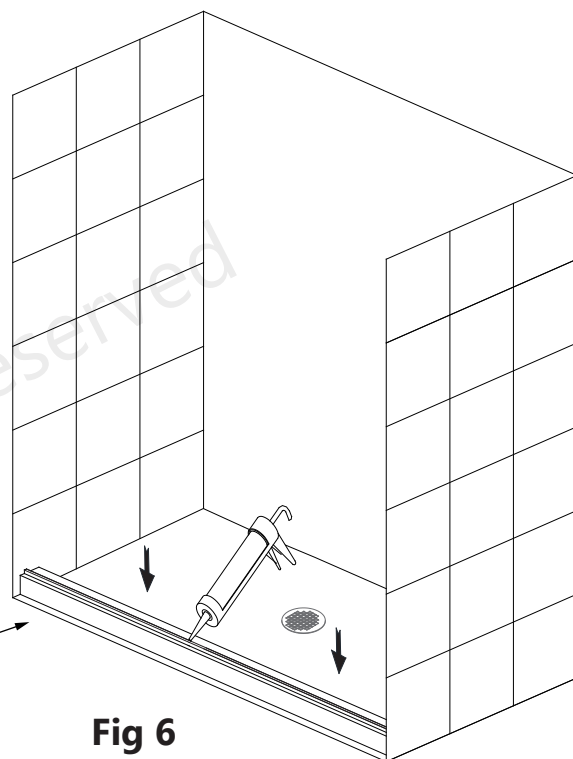

Fig 6
6. Run a bead of silicone along the inside edge of the **Bottom Rail (#08)**. **(Fig 6)**